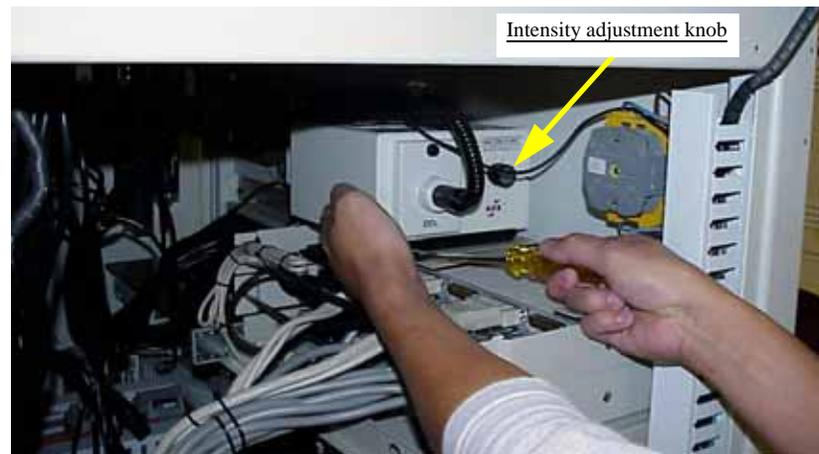

Figure 1-21—Light source with intensity adjustment knob visible
- 13a) Open the lower left side door. Locate the light source for the camera system. The intensity adjustment knob is visible (see *Figure 1-21*).